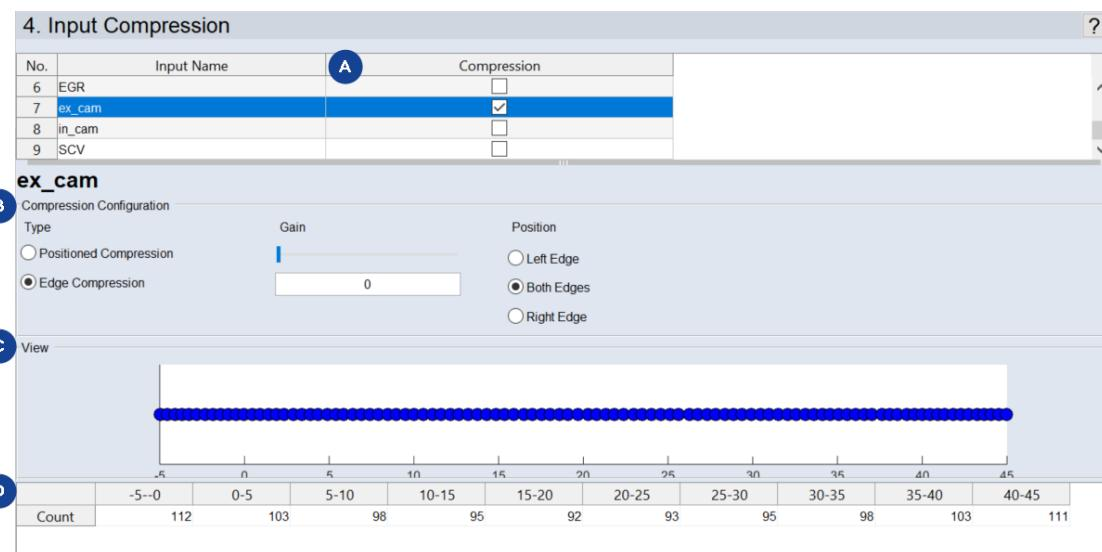

Fig. 7-6: ASCMO-STATIC ExpeDes Step 4: Input compression (type **Edge Compression**)
1. In the **Compression** column, activate the option for each input you want to compress (see **A** in Fig. 7-6: on the previous page).
In area **B** (see Fig. 7-6: on the previous page), you can define the type and the orientation of compression. There are two types of compression available:
In area **C** and **D** (see Fig. 7-6: on the previous page), the position of the measurement points and, therefore, the measure of the selected compression is graphically displayed. Underneath it, the number of measurements in the respective interval resulting from the compression is specified under **Count**.